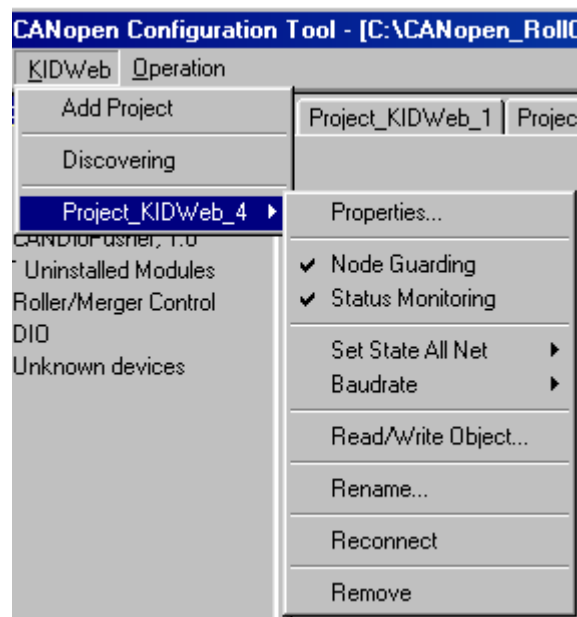

Fig. 4.9
- Approach **Project_KIDWeb_4** item to call the selection list as shown in Fig. 4.9.